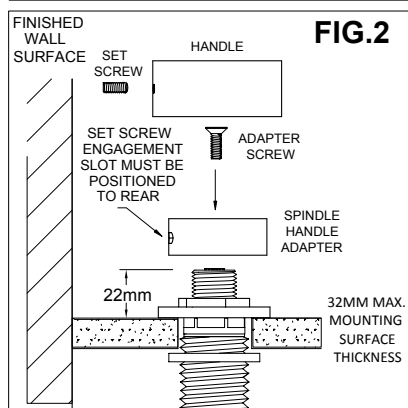

FIG.2
- Fit the Spindle Lock Flanges to secure the assembly to the mounting surface. (See Fig.2)
- Ensure the distance from the Top surface to end of Spindle is 22mm (as shown). Adjust if necessary. (See Fig.2)
HANDLE INSTALL (See Fig.2)